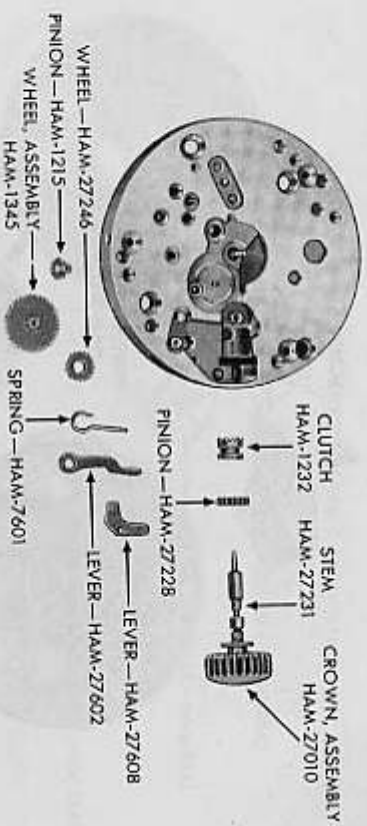

Figure 121 — Hamilton Wrist Watch — Setting Mechanism Removed
- j. Remove Setting Mechanism and Lower End Stone Cap Assembly (fig. 121). Remove minute and setting wheels. Remove
clutch lever spring by placing the end of index finger over the clutch spring and stud to prevent it from being lost and then removing the clutch lever spring with tweezers. Remove the clutch lever. Place index finger on setting lever, invert movement, and unscrew setting lever screw until setting lever is released. Invert movement and remove setting lever. Pull out stem and crown; remove winding pinion and winding and setting clutch. Remove cannon pinion (fig. 121). Remove lower end stone balance assembly cap screws and lower end stone cap assembly.
f. Replace Setting Mechanism and End Stone Cap Assembly (fig. 121). Replace lower end stone balance cap assembly and secure with cap screws. Replace winding pinion and winding and setting clutch in their respective places; then insert winding stem, allowing it to pass through the winding pinion and winding and setting clutch. Replace setting lever, placing the larger stud in the recess of the stem and the hole directly over the setting lever screw. Place the index finger of the left hand over the setting lever, holding it in place. Invert movement; turn setting lever screw clockwise, securing setting